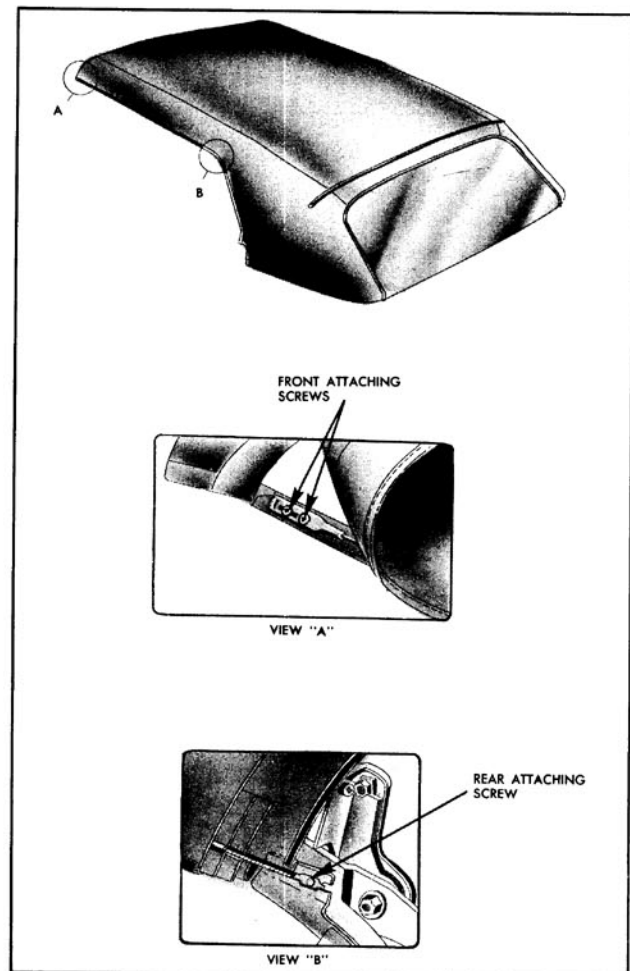

Fig. 16-432 Hold Down Cable Attachment
5. At right and left side roof front and rear rails, remove hold-down cable front and rear attaching screws. (Views "A" and "B" in Fig. 16-432)